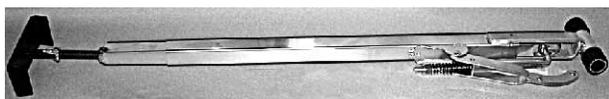

Fig. 11
3. Remove the “travel bars” (Fig. 11) from behind the top fascia board located above slideout room.
3. Install “travel bars” (Fig. 11) in proper locations as indicated on the wall.